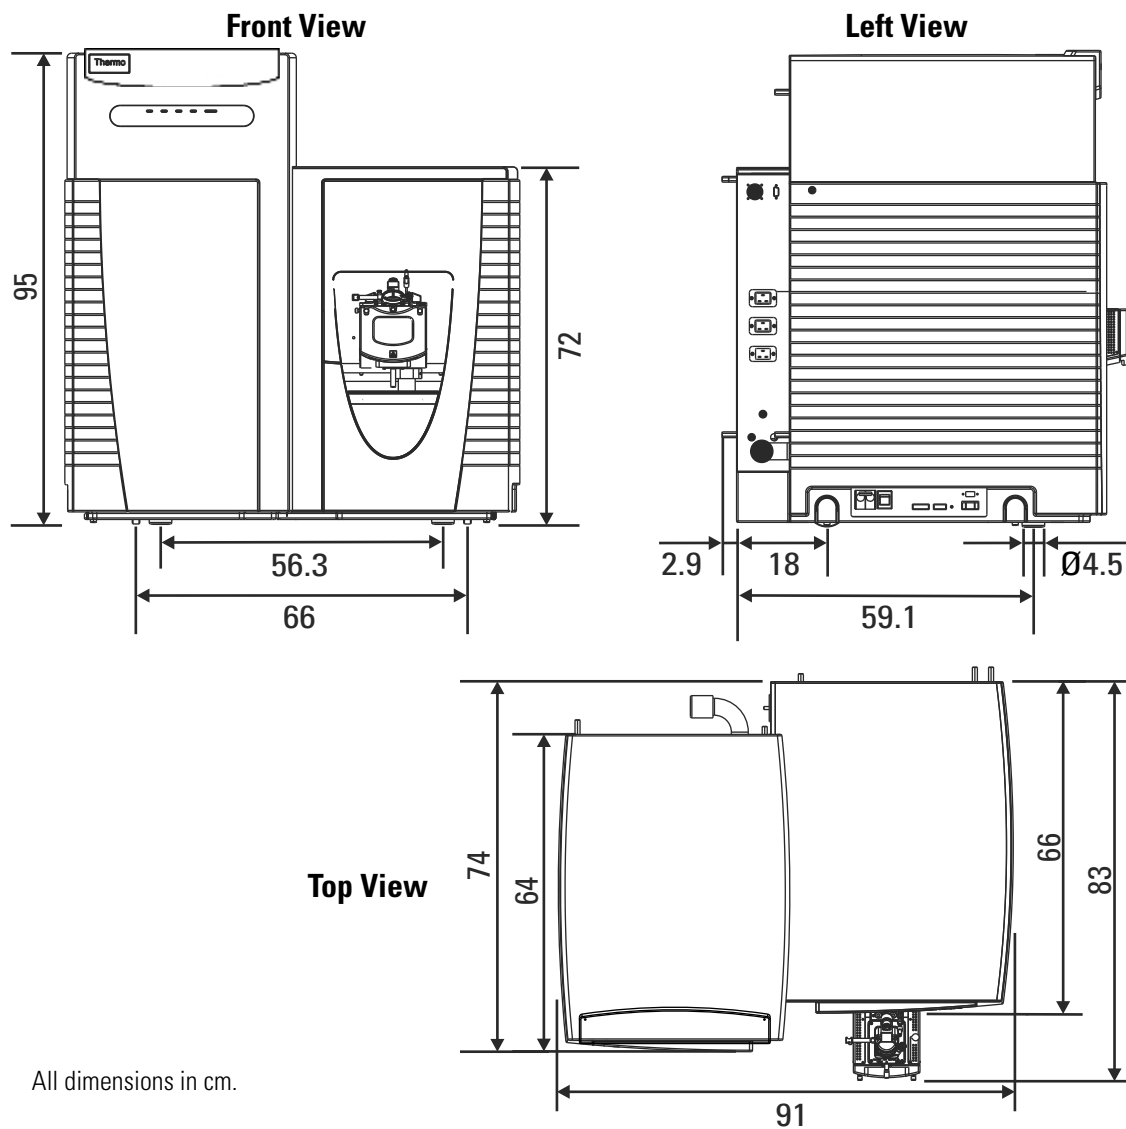

Figure 5-2. Dimensions of the Q Exactive, Q Exactive Focus, Q Exactive Plus, Q Exactive HF, and Q Exactive HF-X MS
Q Exactive, Q Exactive Focus, Q Exactive Plus, Q Exactive HF, and Q Exactive HF-X mass spectrometers have maximum dimensions of h 95 cm (37 in.), w 91 cm (36 in.), l 83 cm (33 in.). Figure 5-2 shows a schematic view of the instrument with important instrument dimensions.
7. The rear pair of the four support points for the instrument consists of wheels. Thus, only two persons are necessary for moving the instrument into its final position on a bench, while holding the two front handles. See Figure 5-2 on page 5-4 for information about the position of the support points.